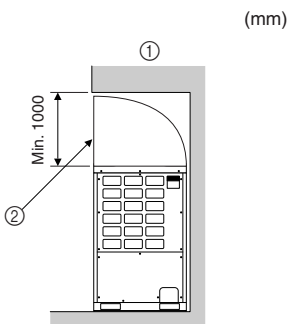

Fig. 2-5
- ① If there is little space between the unit and the obstruction (Fig. 2-5)
- ② Provide outlet blower guide. (Procure locally.)